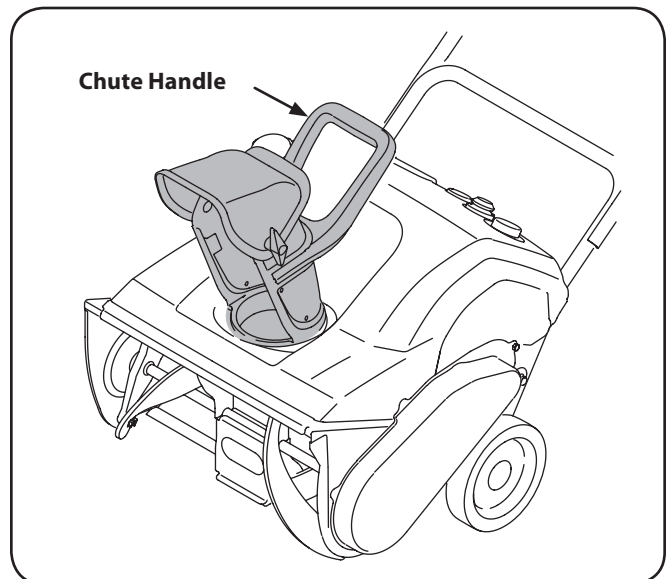

Figure 3-3
3. Secure with the hardware just removed. Refer to Fig. 3-3.